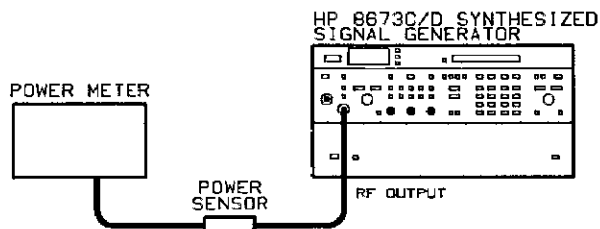

Figure 5-25. Power Clamp Adjustment Test Setup
2. Connect the equipment as shown in figure 5-25.